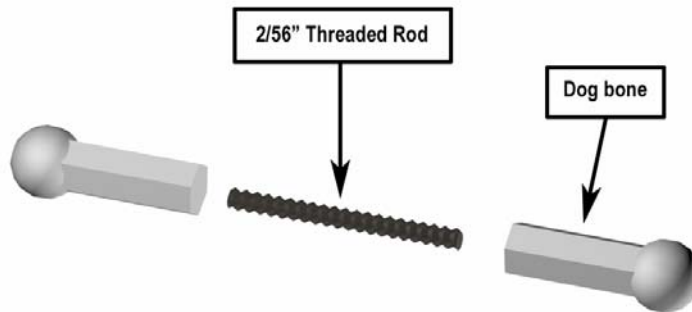

Figure 12: Dog Bone Assembly
- Join the 2 dog bones by threading the 2/56" threaded rod into each end of the dog-bones. Start threading one dog bone for a few turns onto the threaded rod and then install the other dog bone and turn them together in opposite directions (Figure 12). Repeat this step for all of the legs in your kit.